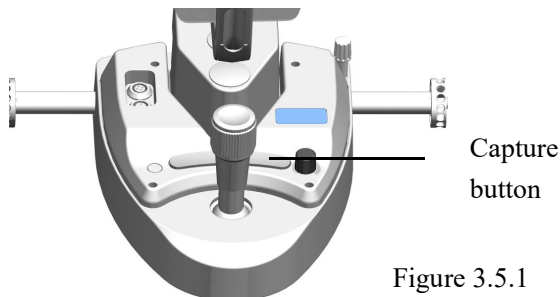

Figure 3.5.1
1. Capture button (see Figure 3.5.1), press the capture button in the camera mode to take a photo; press the capture button in the video mode to start recording, press the capture button in the recording state to end the current recording.